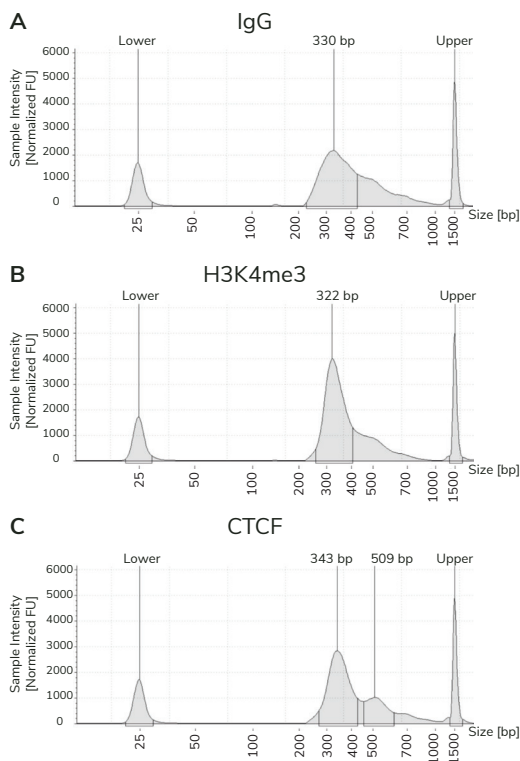

FIGURE 7
58. The final traces should show predominant enrichment of mononucleosome-sized fragments, such as those yielded by H3K4me3 and CTCF antibodies in Figure 7 (~300 bp: ~170 bp + 125 bp sequencing adapters). Adapter dimers, if present, would be observed as a peak at ~125 bp; see Appendix 1.4.